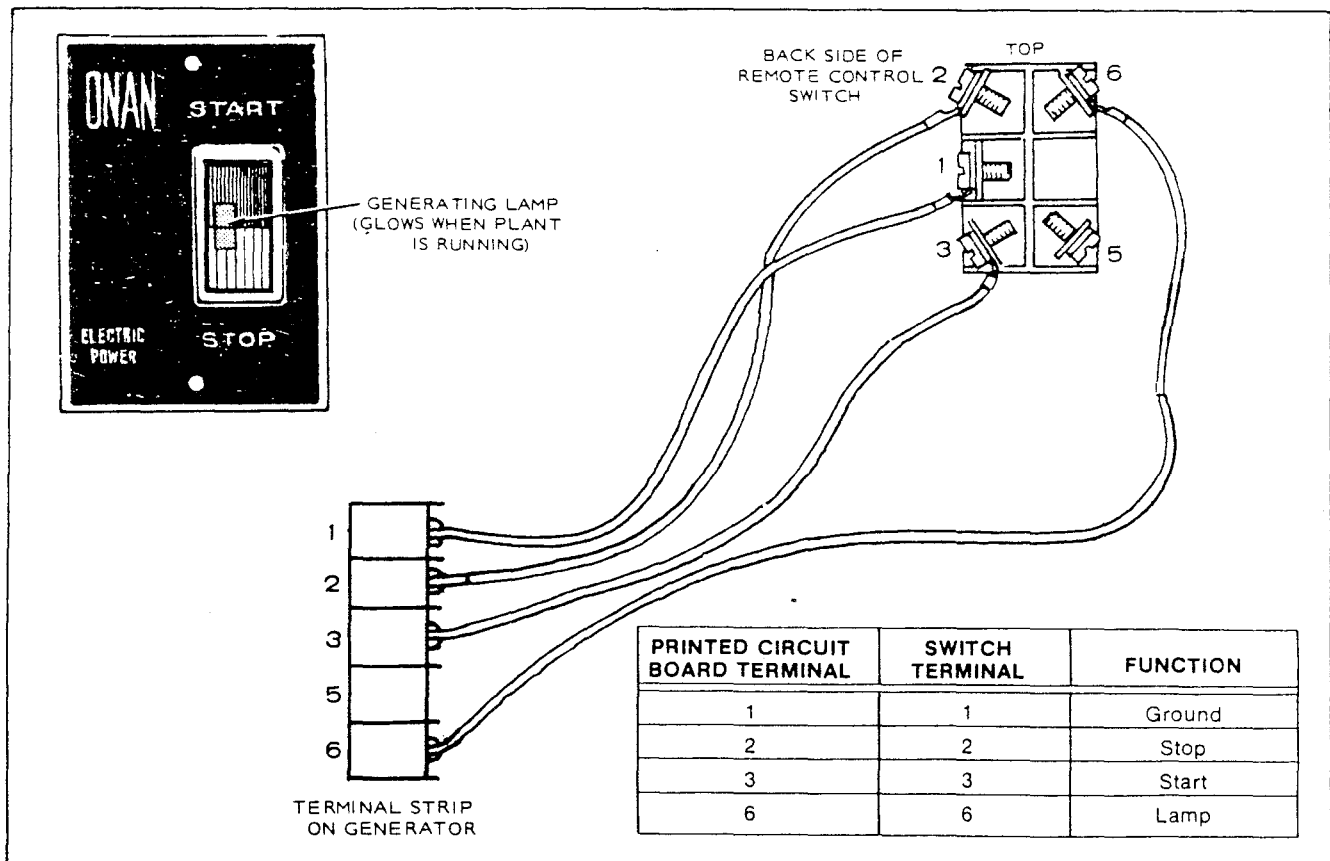

FIGURE 18. CONNECTING REMOTE CONTROL (300-0985)
2. Following national and local electrical codes and using four insulated wires of predetermined length (#18 or larger), connect remote switch to terminals on generator. See Figure 18.